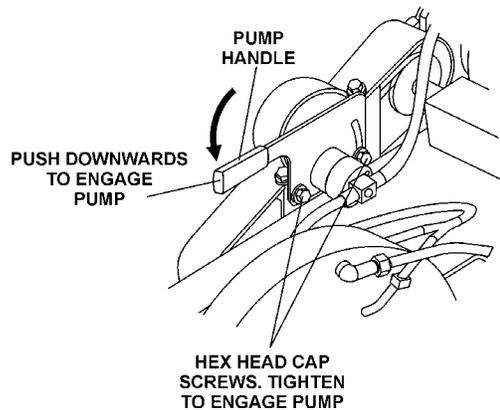

Figure 14. Pump Engage
1. Loosen the 2 hex head cap screws (Figure 14) that secure the pump mount bracket.